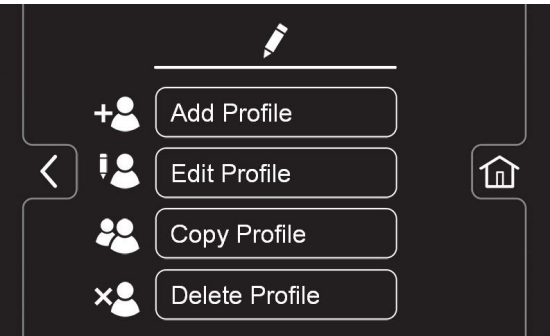

FIG. 150
11. Use the edit, copy and delete profile buttons to manage the current user profiles (Figure 150).